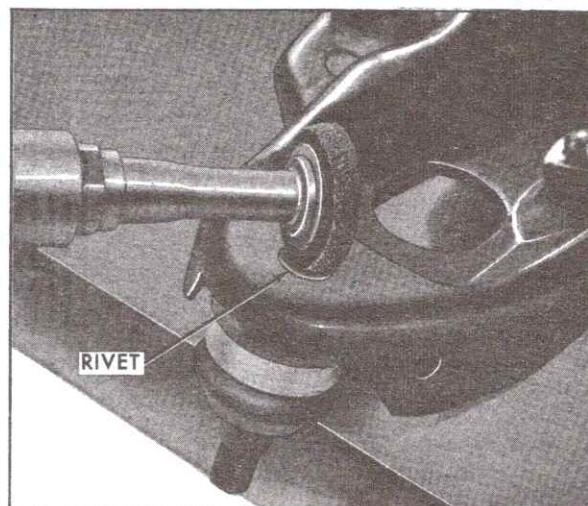

Fig. 3-41 Removing Lower Ball Joint Center Rivet
4. Place lower control arm right side up and grind large rivet head off as shown in Fig. 3-41.